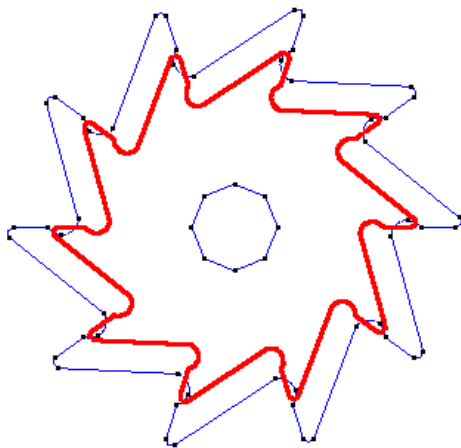

Figure 18. The selected surface in which to create the hole
- 2 . Select the surface in which to make the hole (Figure 18).